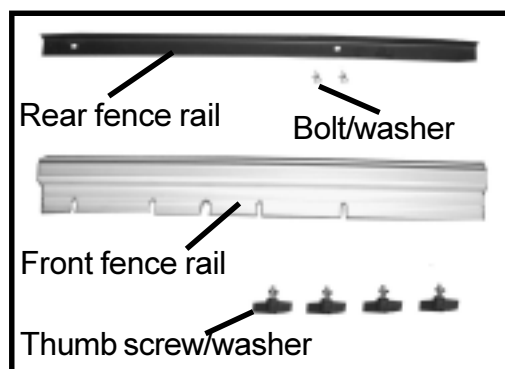

Fig.3
Install the rear fence rail to the table with (2) M6-1.0 x 20 hex bolt and (2) flat washer M6 (Fig.3).
Install the front fence rail to the table with (4) thumb screw and (4) flat washer M8 (Fig.3).
- b) Remove the rip fence rail from the front of the table by releasing the 4 thumb screws (Fig. 3 on page 5).
- i) Replace the rip fence guide, and retighten the 4 thumb screws (Fig. 3 on page 5).